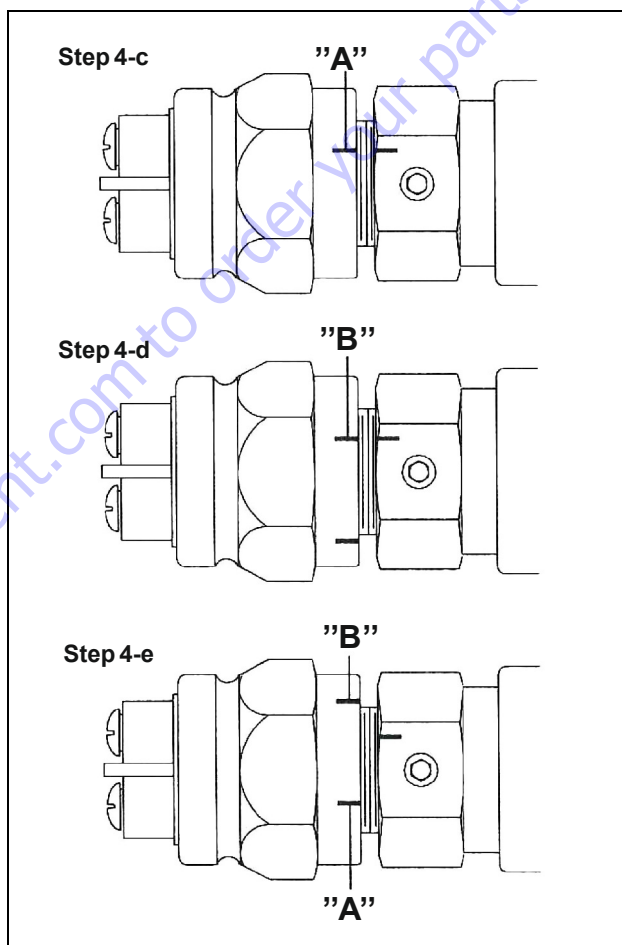

Figure 5-143. Neutral Lockout Switch Assembly
- c. Move the control arm out of the detent position. The test light will go on. Screw in the switch until the light goes off. Mark this as position "A". See Figure 5-143. Move the control arm to the detent position and the test light should come back on.
- e. Unscrew the switch one third of the distance between "B" and "A". Install and tighten the hex socket head set screw in one of the main quadrants of the hex of the switch adapter. See Figure 5-143. Torque set screw 2.3 to 2.8 in. lbs (3.2 to 3.8 Nm).